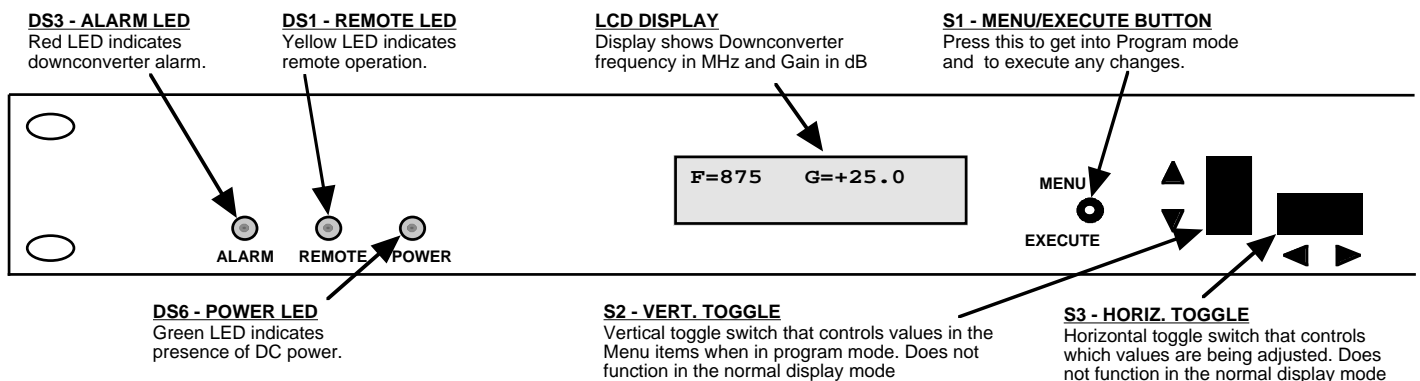

FIGURE 2.3 2016-10 Front Panel Controls and Indicators
Figure 2.3 shows the front panel controls and indicators.
6. Be sure DS6 (green, DC Power) is on and DS3 (red, Alarm) is off (Figure 2.3).
Alarm indications appear on the LEDs (see figure 2.3).